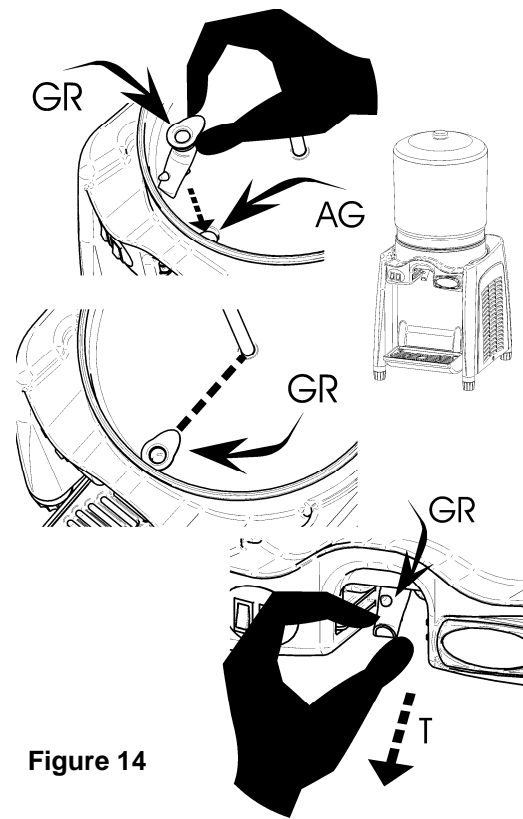

Figure 14
13°. Introduce the gum dispenser (GR) in its lodging (AG) in the evaporator, making sure that it is aligned with the shovels shaft. Pull smoothly (T) the gum dispenser until it is well seated (Fig.14).